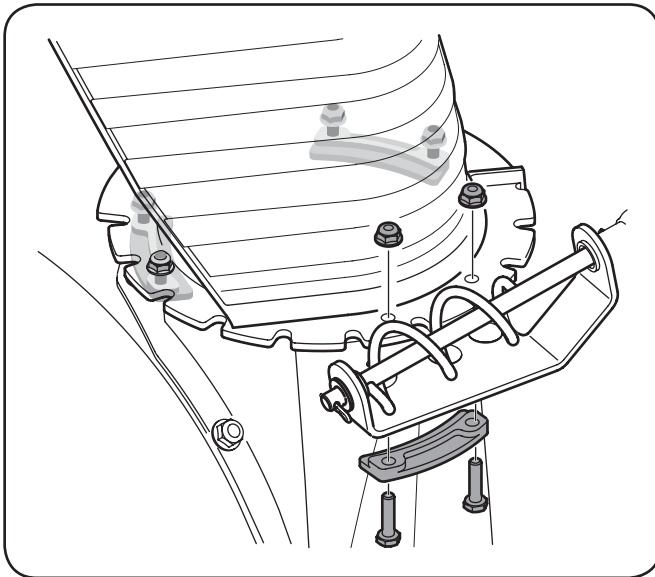

Figure 3-5
1. Remove lock nuts and screws securing one of the flange keepers to the chute assembly. Loosen the fasteners of the other two flange keepers. See Fig. 3-5.
4. Secure flange keeper removed earlier with lock nuts and screws. Tighten down nuts securing the other two flange keepers. See Fig. 3-5.